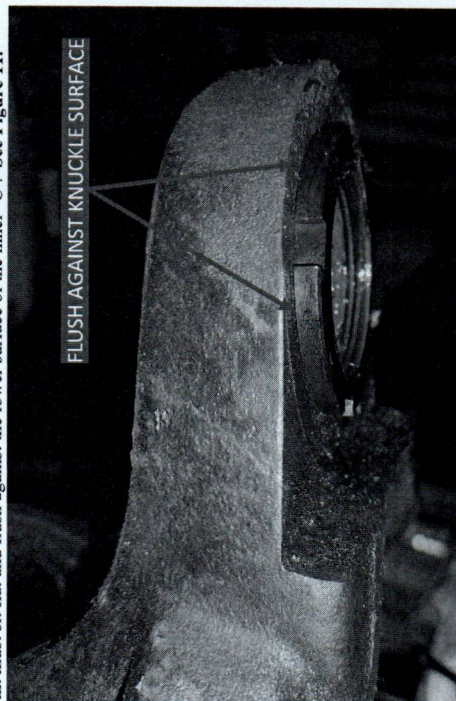

Figure 11. Lower Ball Joint Body Pressed In. Joint Shown Disassembled for Clarity, Recommend Pressing in Assembled.
13. Once the lower ball joints are correctly oriented, press the joints into the axle housing. It is critical that the body is pressed in evenly and smoothly. Grease is not necessary but can be used if desired. The joint must sit flat and flush against the lower surface of the inner 'C'. See Figure 11.